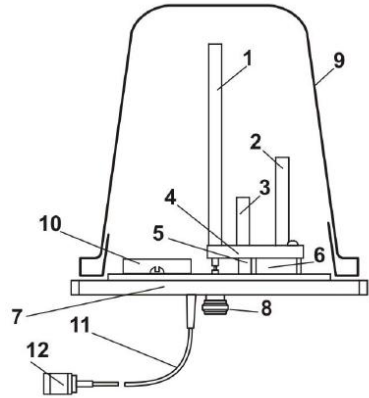

Fig. 1
5.1. The antenna “AL2/460/900/N” structurally contains the base 7, the protective fiberglass radome 9, vertical folded monopoles 1-3, the loop line 4, the leg 5 and the plunger pin 6 (Fig. 1). The power supply of monopoles is provided by the short-circuited ring matching loop line 4.